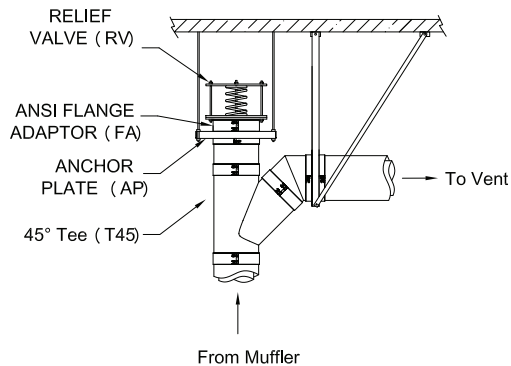
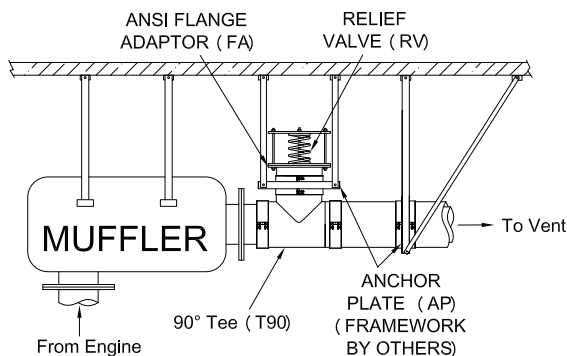

Figure 75b - Typical installations with a 45° Tee and a ANSI Flange Adaptor (FA)
Figure 75c - Typical installations with a 90° Tee and a ANSI Flange Adaptor (FA)
1. The Relief Valve (RV) should be located in the beginning of the system.
2. The orientation of the Relief Valve must be positioned upright, as shown on the **Figure 75b** with a 45° Tee (T45) or on **Figure 75c** with a 90° Tee (T90).
3. The Relief Valve must be connected to our ANSI Flange Adaptor (FA). Bolts, washers, nuts, and gasket (supplied by others) will provide a complete gas tight connection to the 125/150 lb. ANSI flanged Flange Adaptor.
5. The Relief Valve (RV) must be supported independently of the rest of the exhaust system. The best method to accomplish this is to locate an Anchor Plate (AP) support at the joint between the ANSI Flange Adaptor (FA) and the adjacent Tee (T45 or T90). It is crucial that the Anchor Plate (AP) is properly secured to building structure so that it can withstand the forces generated in case of delayed fuel ignition.